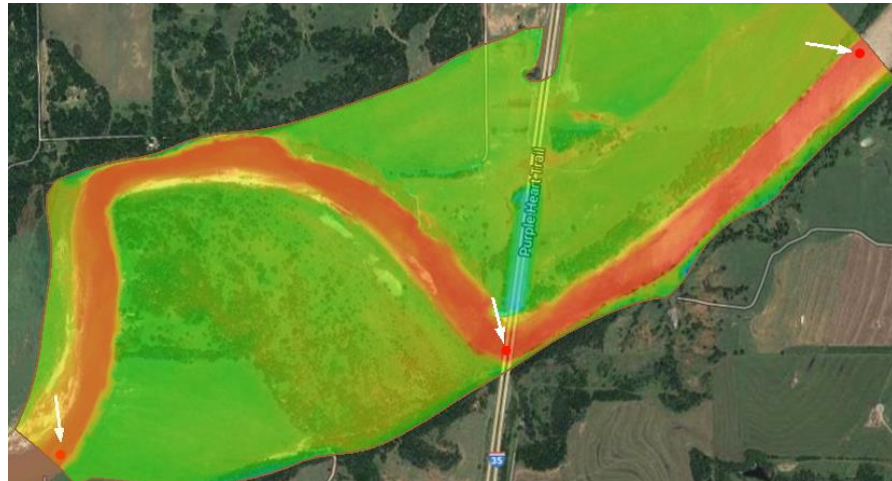

Figure 3 Monitor points at upstream, midway between, and downstream
2. Using the **Create Feature Point**  tool, create three monitor points as shown in Figure 3.